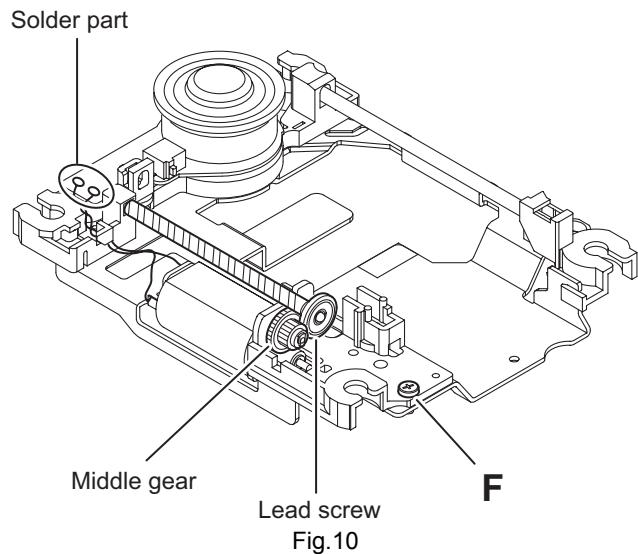

Fig.10
3.2.3 Removing the feed motor assembly (See Fig.10)